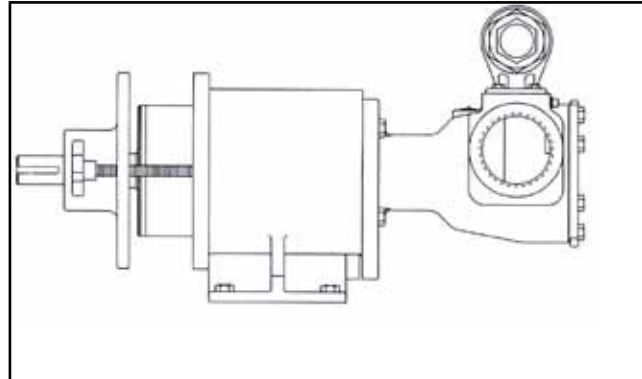

FIGURE 39
4. The outer magnet should be installed into the bearing housing, if not refer to **DISASSEMBLY/ASSEMBLY OF BEARING HOUSING, page 10.** Install the hand knobs so that 4" of threads are projecting below housing. Support the bearing housing from overhead and gently position the magnet over the canister so the magnet assemblies start to engage. Evenly back out the hand knobs. **See Figure 39.** The bearing housing should move toward the bracket as the hand knobs are removed.